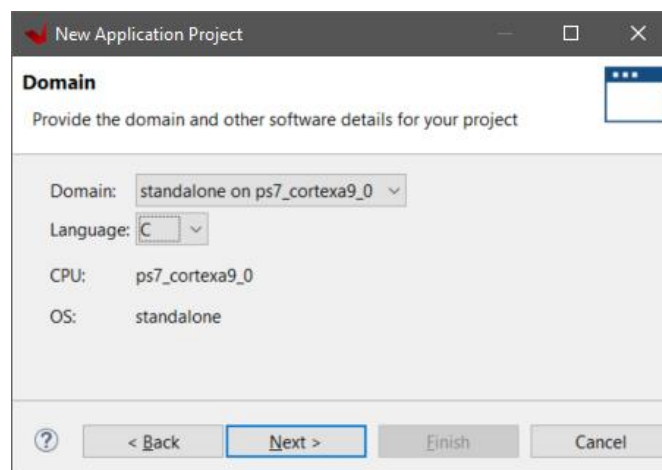

Figure 28
6. In the **Domain** page leave all the fields at their default values and click **Next** (Figure 28)
5. In the **Domain** page leave all the fields at their default values and click **Next** (see Figure 28)